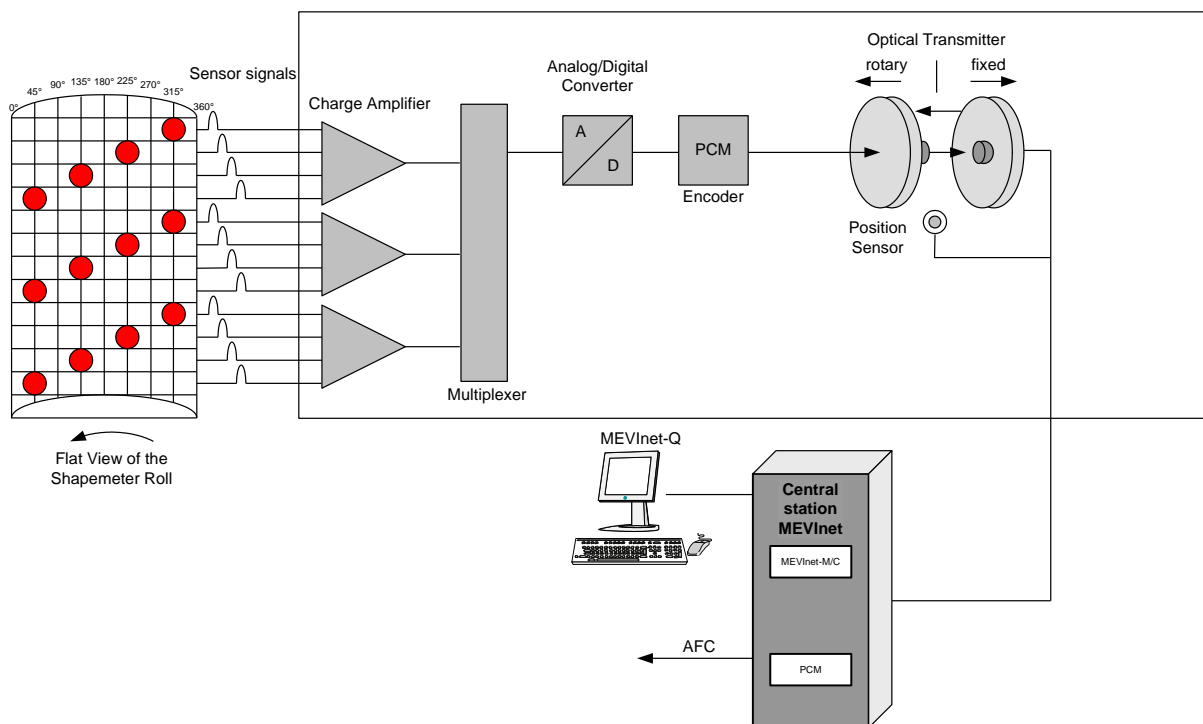

Figure 21: Signal flow
For one (1) measuring zone one (1) sensor is used. In the standard application the roll has four (4) axial bores. And the neighbour sensors have an offset of 90° . The piezo sensors are connected to multi-channel charge amplifiers which give their results to a multiplexer. On the output of the multiplexer we have an Analogue-Digital Converter which is connected to an encoder. This encoder performs a pulse coded modulation (PCM) which guarantees highest transmission speed and highest protection against any electro-magnetic interferences. Those signals will be passed optically (means contactless) from the rotating part to the static part. All the measuring cycles are synchronized with a position sensor. From the signal receiver in the static part the signals are transferred to the main cubicle where a processor unit which is called 'SIKO' (Signal Converter). This unit mainly consists of a decoder for the PCM signals and processor for the calculation of the forces per sensor. Through Ethernet interface the force values are transferred to our real-time computer for data processing, according the figure 21. After calculation the measuring results will be given to the Automatic Flatness Control System.